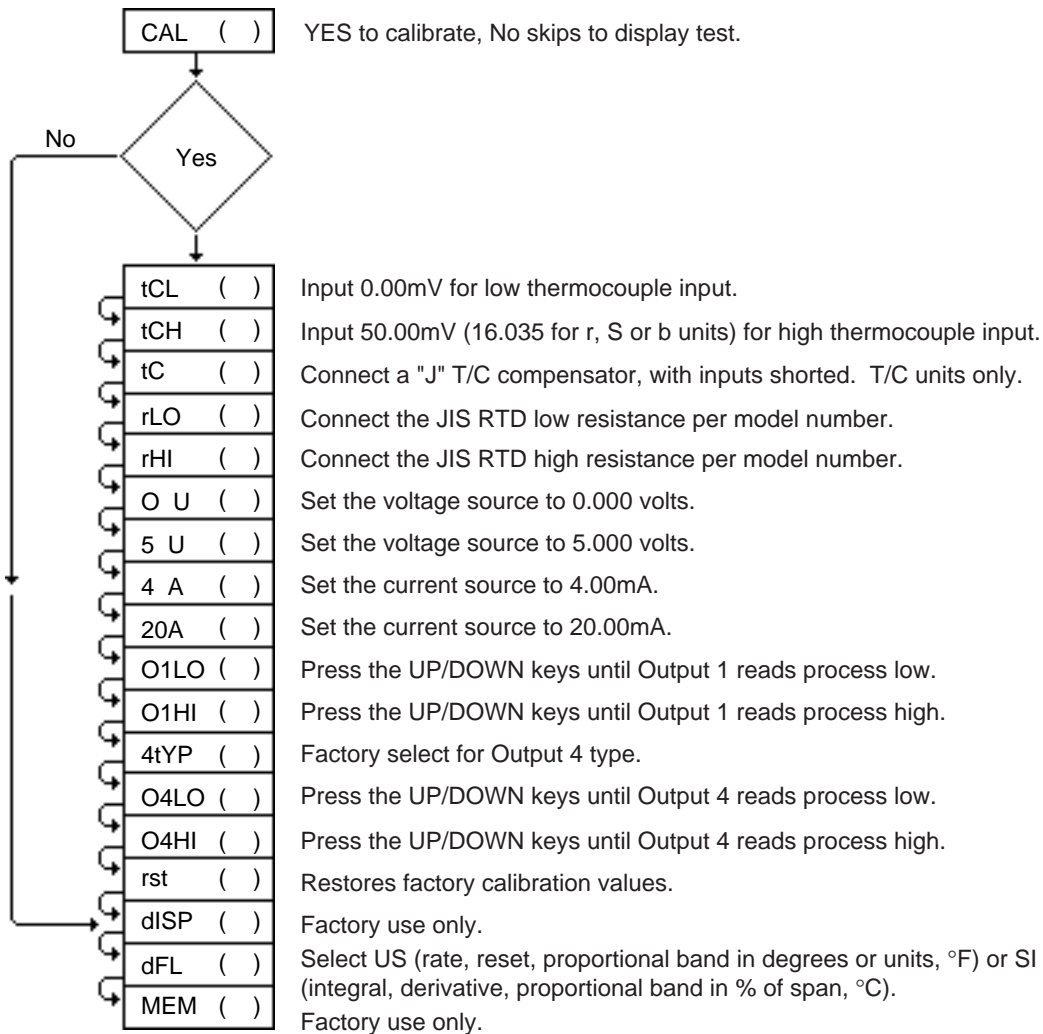

Figure 41 - Calibration Menu
4. Press AUTO/MAN twice to enter the MANUAL mode. The unit is calibrating when the MANUAL LED is ON. Make sure the unit is in MANUAL mode **only** when you are in the correct parameters. See Figure 41. Press MODE.
4. Press AUTO/MAN twice to enter the MANUAL mode. The unit is calibrating when the MANUAL LED is ON. Make sure the unit is in MANUAL mode **only** when you are in the correct parameters. See Figure 41.
4. Press AUTO/MAN twice to enter the MANUAL mode. The unit is calibrating when the MANUAL LED is ON. Make sure the unit is in the MANUAL mode **only** when you are in the correct parameters. See Figure 41.
4. Press the AUTO/MAN key twice to enter the MANUAL mode. The unit is calibrating when the MANUAL LED is ON. Make sure the unit is in the MANUAL mode **only** when you are in the correct parameters. See Figure 41.